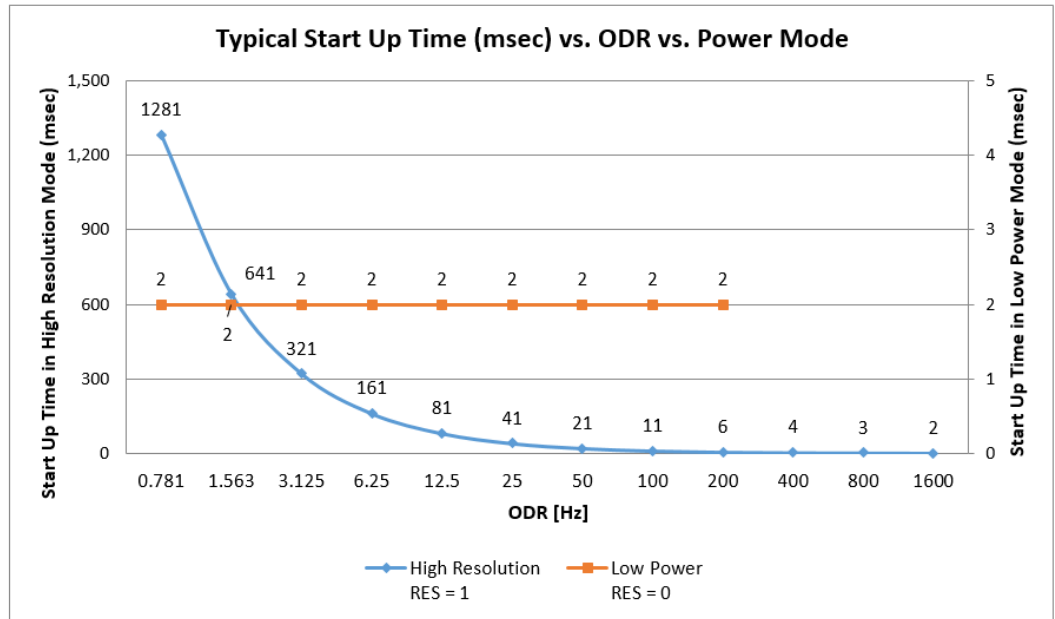

Figure 1: Typical Start Up Time
3. Start up time is from PC1 set to valid outputs. Time varies with Output Data Rate (ODR) and power mode. See Figure 1 for details.